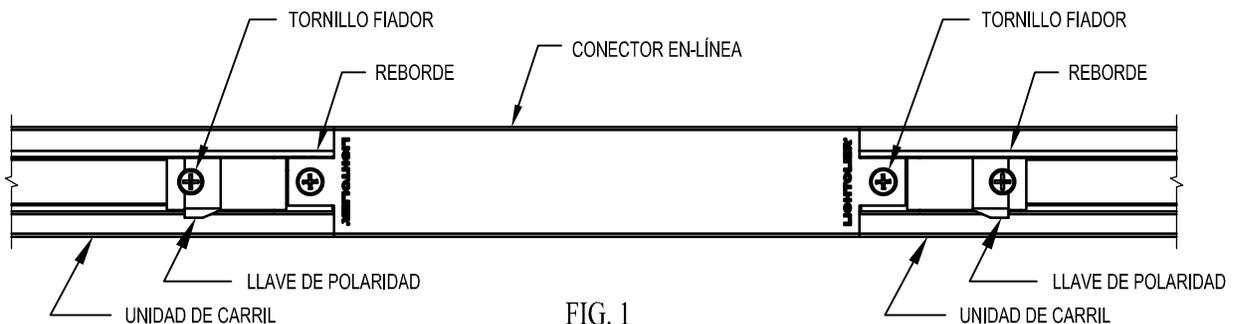

FIG. 1
1. To maintain polarity in pre-wired IN-LINE or VARIABLE CONNECTOR, orient TRACK UNITS so that the BEADS (opposite the POLARITY KEY) are in line. (See figure 1)